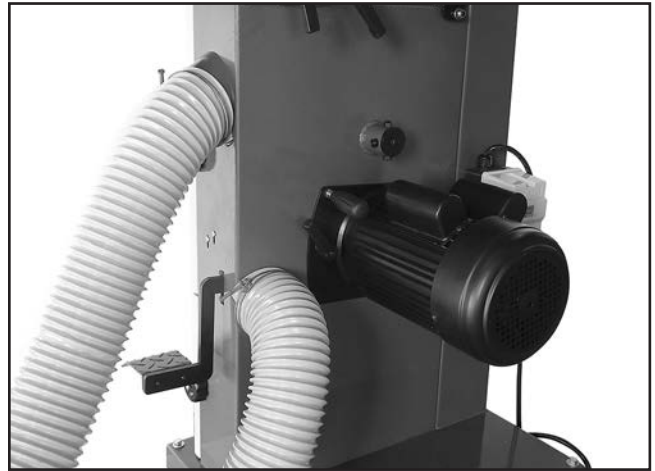

Figure 37. Dust hoses attached to dust ports.
1. Fit a 4" dust hose over each dust port, and secure them in place with hose clamps (see **Figure 37**).